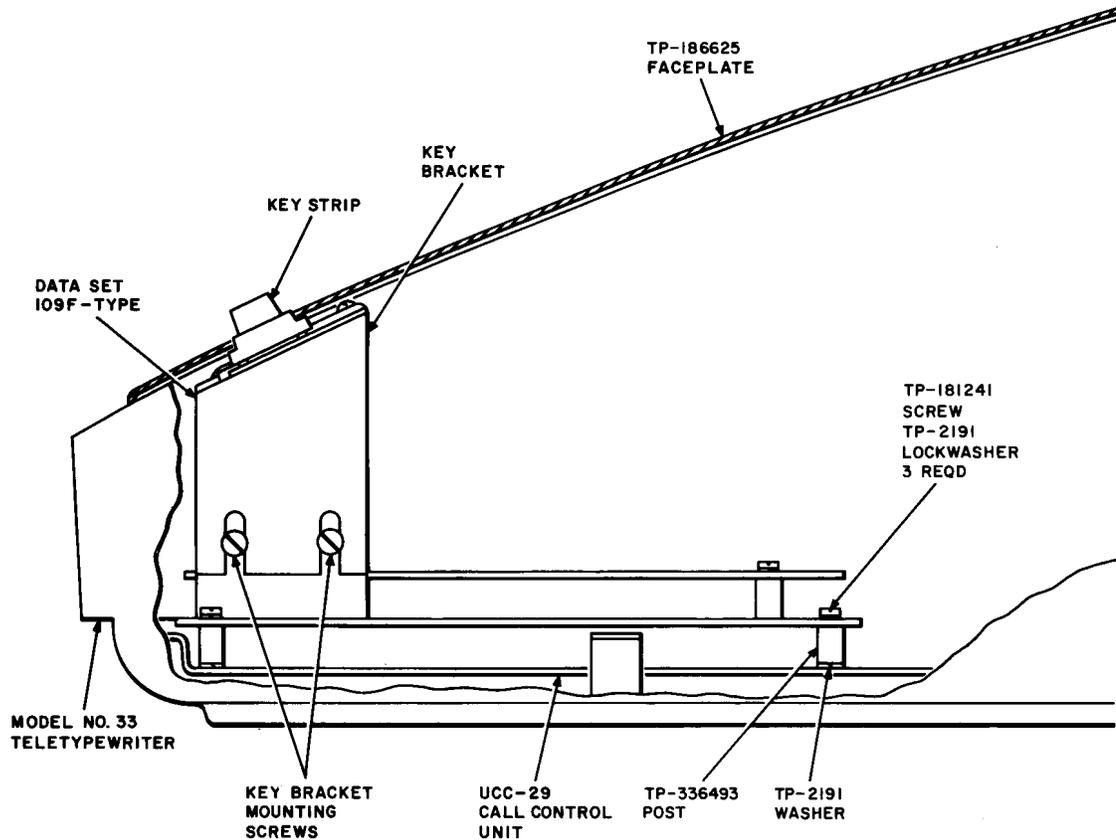

Fig. 2—Cross Section Diagram Showing the Mounting of Data Set 109F in a 33-Type Teletypewriter
- (3) Remove the three mounting screws that hold the data set baseplate to the posts on the call control unit (refer to Fig. 2). Two of these screws are located at the back of the data set and the other screw is located at the front.
- (4) Lift the data set vertically to remove it from the teletypewriter.
- (2) Position the data set in front of the call control unit (UCC 29). The screw slots in the metal baseplate of the data set must line up with the posts on the call control unit baseplate (refer to Fig. 2).
- (3) Insert the mounting screws through the three slots in the data set baseplate and into the posts of the call control unit.
- (4) Position the data set so that the plastic key collar will be located in the center of the faceplate opening.
- (5) If the teletypewriter leads have not been previously installed, connect the teletypewriter
- (6) Connect the loop leads to the data set. Observe the marking of the loop leads as the data set will not operate if the line is improperly polled. Refer to the previously referenced installation practice for information on connecting the loop to the data set.
- (7) Adjust the height of the key bracket so the top of the keystrip collar is flush with the TTY faceplate when the TTY cover is reinstalled (Fig. 2).
- (8) Replace the TTY cover by reversing the procedure given in 3.02.
- (9) After completing the reassembly of the station, reconnect the power cord to the power receptacle.